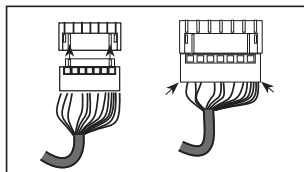

Figure 6B
- Attach cable assembly to the inside escutcheon printed circuit board (PCB) by lining up notches on top of cable connector to slots on PCB connector (Fig. 6B). Press connector in firmly using thumbs until completely seated (proper position indicated by arrows on PCB as in Figures 6A and 6B).